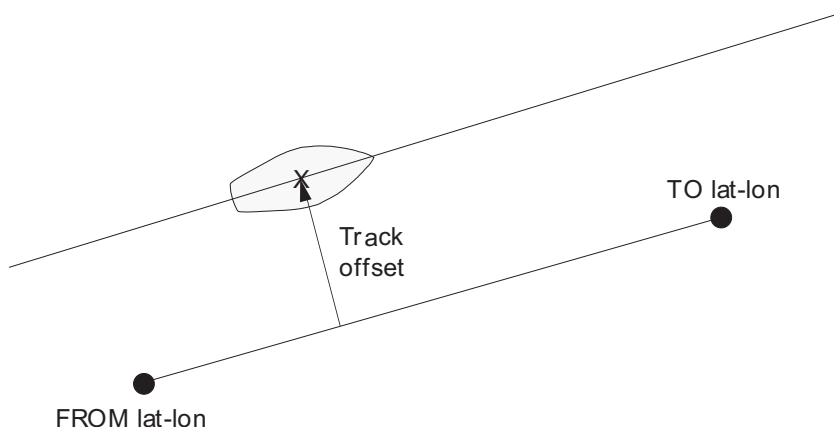

Figure 8: Illustration of SETNAV Parameters
This command permits entry of one set of navigation waypoints (see *Figure 8 on Page 181*). The origin (FROM) and destination (TO) waypoint coordinates entered are considered on the ellipsoidal surface of the current datum (default WGS84). Once SETNAV has been set, you can monitor the navigation calculations and progress by observing the NAVIGATE log messages.
Track offset is the perpendicular distance from the great circle line drawn between the FROM lat-lon and TO lat-lon waypoints. It establishes the desired navigation path, or track, that runs parallel to the great circle line, which now becomes the offset track, and is set by entering the track offset value in meters. A negative track offset value indicates that the offset track is to the left of the great circle line track. A positive track offset value (no sign required) indicates the offset track is to the right of the great circle line track (looking from origin to destination). See *Figure 8 on Page 181* for clarification.